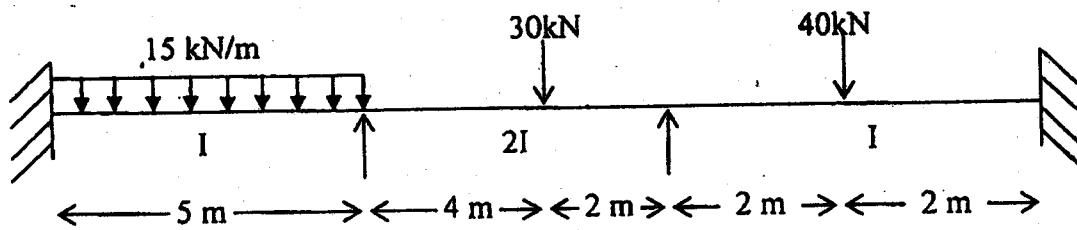

Figure 3
15. Analyse the continuous beam loaded as shown in Figure 3 by Kani's method. Sketch the bending moment diagram :